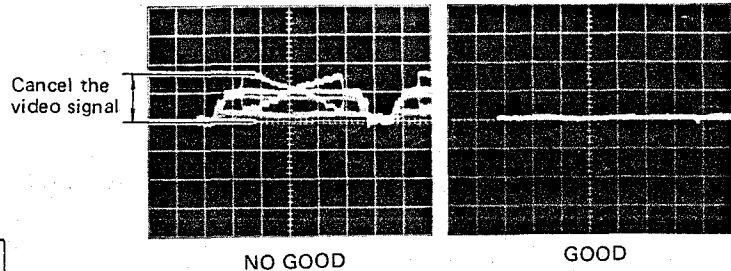

Fig. 6-4-21
- Adjust V.EDGE BALANCE VR323 to cancel the video signal. (Fig. 6-4-21)